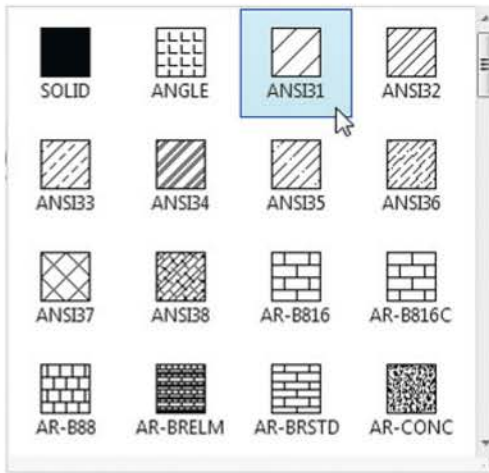

Fig. 8.13 Selecting ANSI31 pattern from the Hatch Creation/ Pattern panel
- In the **Hatch Creation/Pattern** panel, *click* the bottom arrow on the right of the panel and, from the palette that appears, *pick* the ANSI31 pattern (Fig. 8.13).